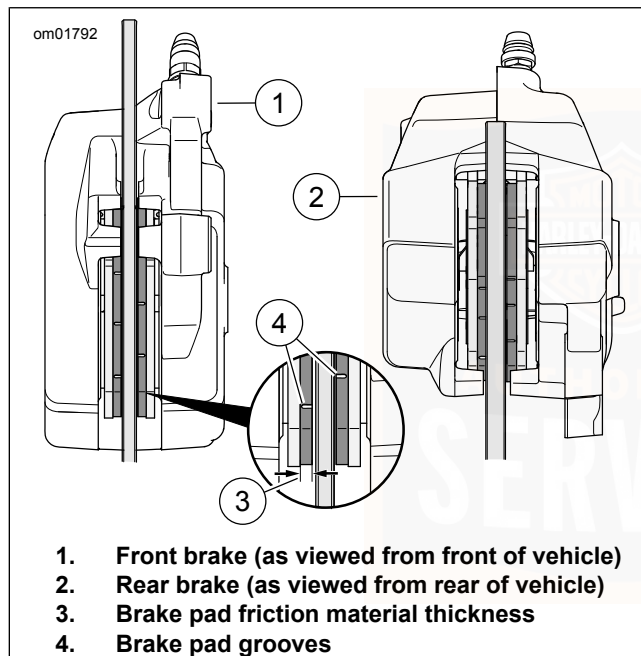

Figure 67. Brake Pad Friction Material
1. See Figure 67. Check the brake disc as it spins. The disc should run true in the brake caliper.